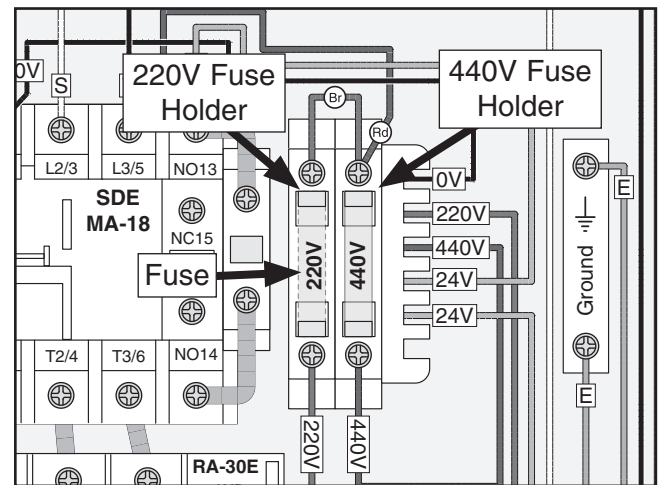

Figure 9. Moving fuse to “440V” fuse holder.
3. Remove fuse from “220V” holder and insert it into “440V” holder (see illustration in **Figure 9**).